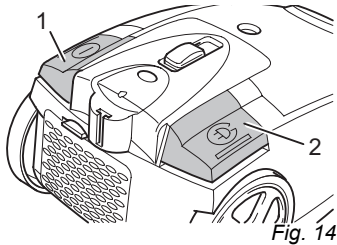

Fig. 14
1. Switch off the cylinder vacuum cleaner using the on/off switch (Fig. 14/1) and pull the plug out of the socket.
3. Press the cable retract button (Fig. 14/2) to pull in the power cable.